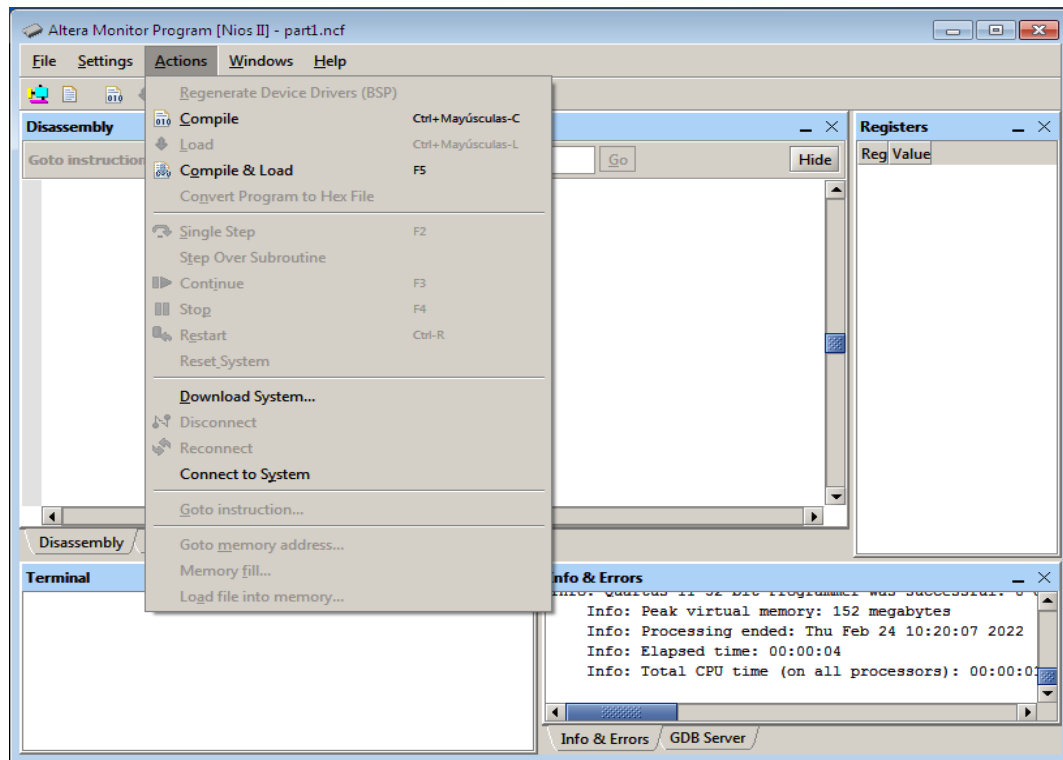
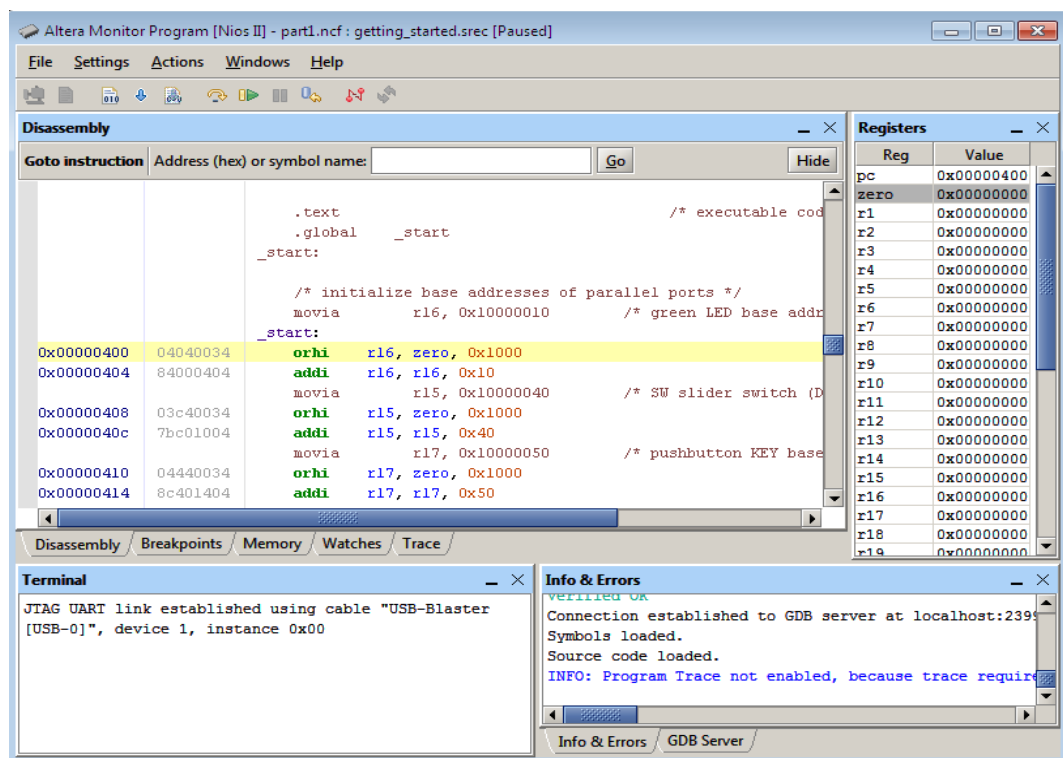

Figure 9: Specify an action in the monitor window.
Figure 10: The monitor window showing the loaded sample program. Instruction set architecture registers window is on the right side.
9. Having downloaded the DE0-Nano Basic Computer into the FPGA chip on the DE0-Nano board, we can now load and run programs on this computer. In the main monitor window, shown in Figure 9, select **Actions > Compile & Load** to load the selected sample program into the FPGA chip. Figure 10 shows the monitor window after the sample program has been loaded.